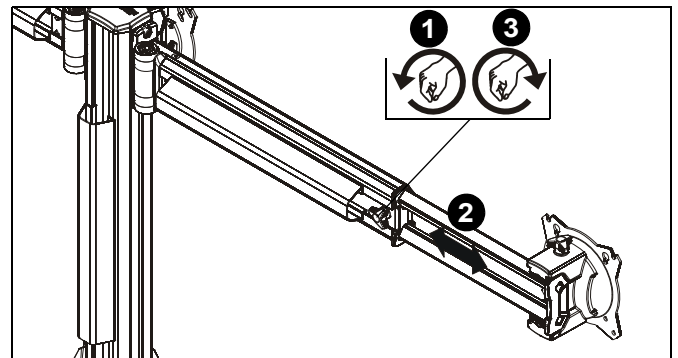

Figure 23
- Turn arm extension adjustment knob counter-clockwise on arm to be adjusted. (See Figure 23)
- Adjust arm extension as desired. (See Figure 23)
- Turn arm extension adjustment knob clockwise on adjusted arm to lock position. (See Figure 23)